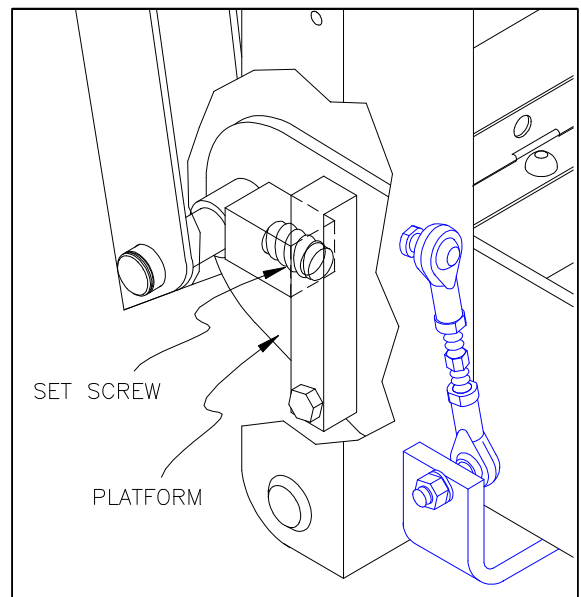

FIGURE 2-19: PLATFORM SET SCREWS
- b. Refer to **Figure 2-19**. Adjust left and right platform set screws until platform is level at zero (0) degrees. Turn set screws clockwise to angle front-end of platform upward, or counter-clockwise to angle downward.